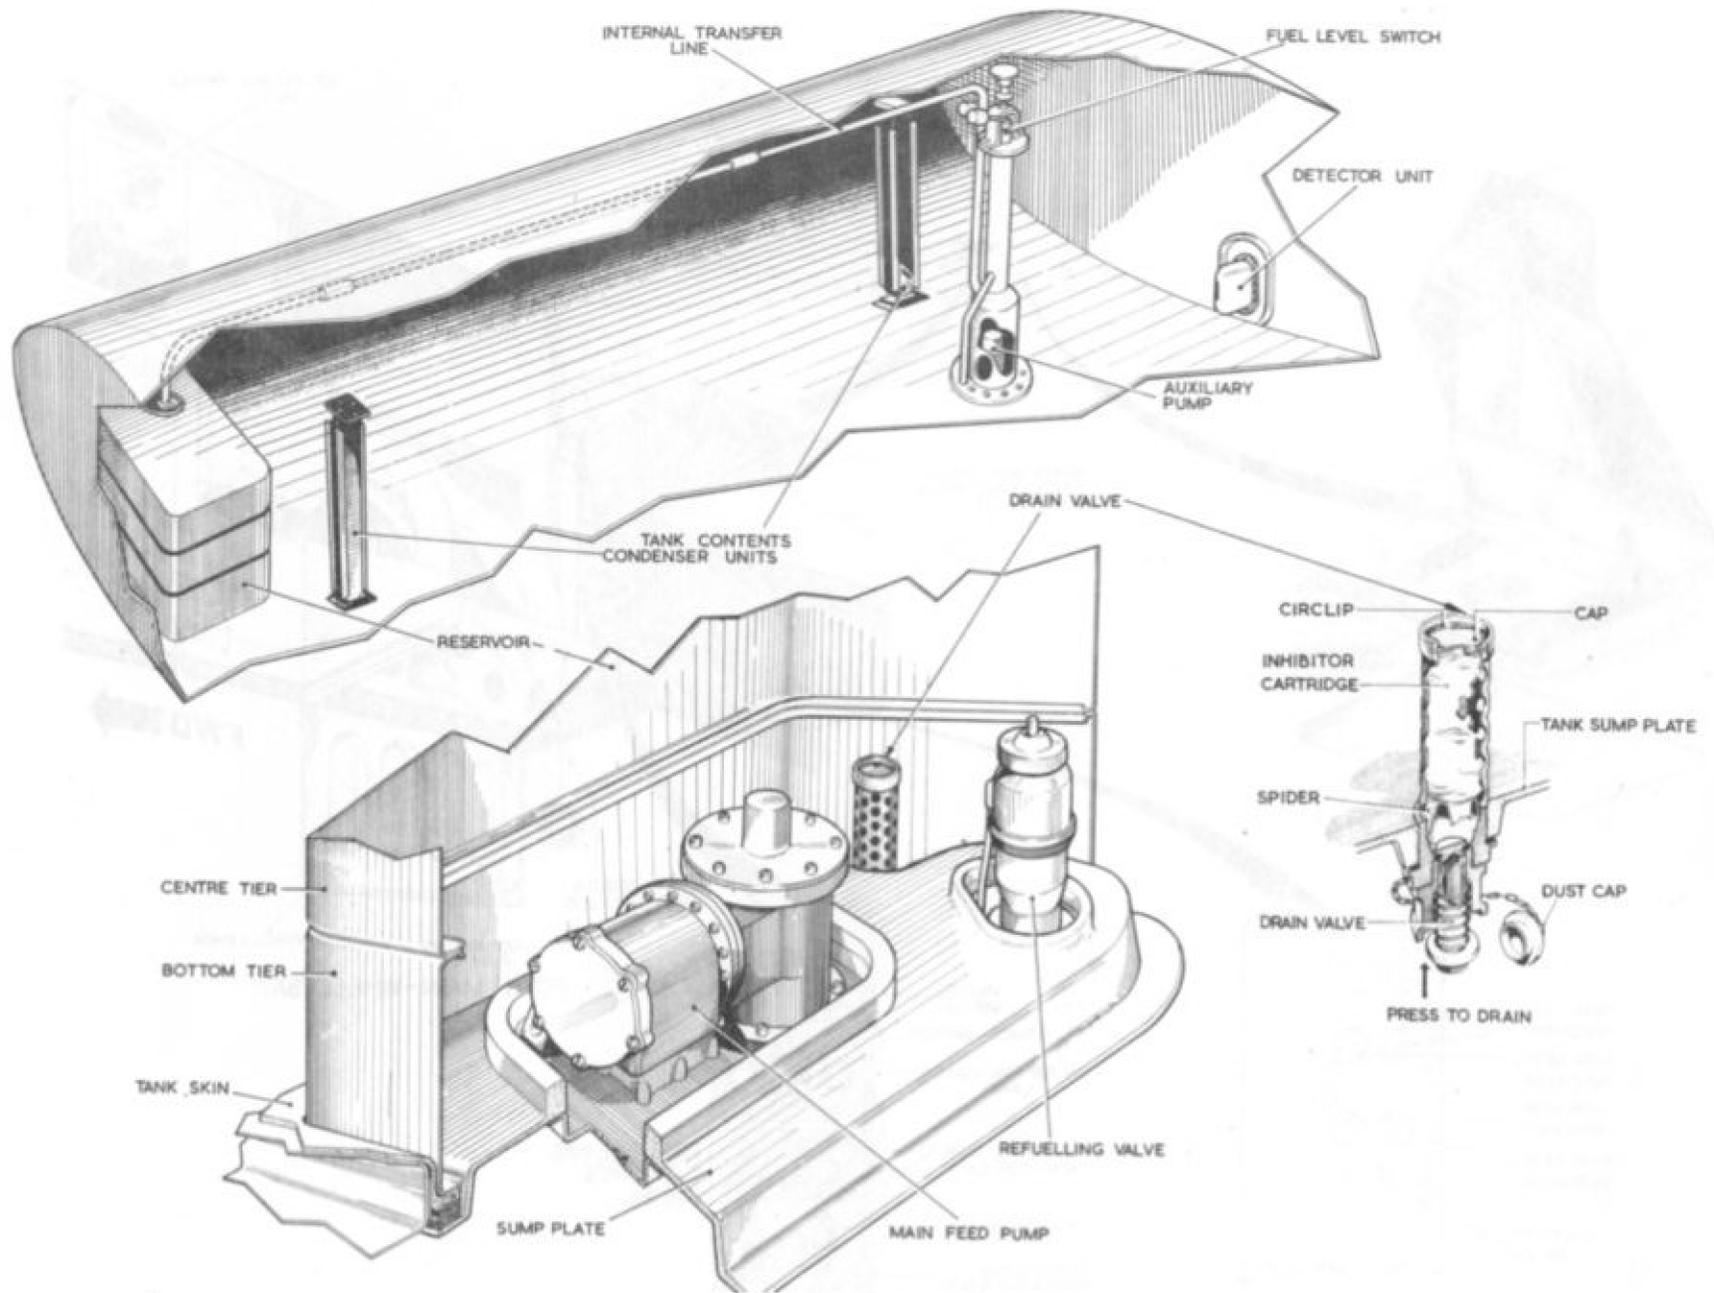

Fig. 7. Fuel tank equipment
34. Mounted in the fuel level switch tubular unit, in each wing tank, is an internal transfer auxiliary pump Type P.A.C. 100 Mk.3 (fig.7). The purpose of this pump is to prevent starvation of the main pump, which could occur at certain aircraft attitudes and manoeuvres with the tank partly empty. Normally the main pump obtains its supply from the tank, through the reservoir flap valve aperture, (para.15) but in a dive, or side-slip, its supply is maintained by the auxiliary pump. This delivers fuel to the reservoir, from the opposite end of the tank, through an internal transfer line. The head of fuel which is thus created closes the flap valve.